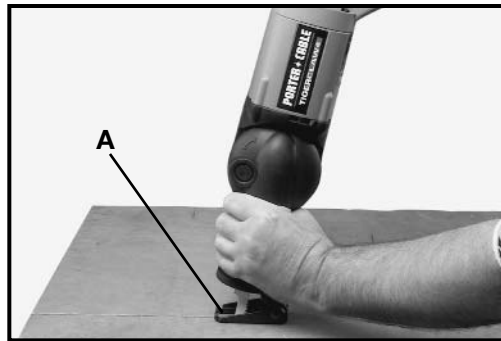

Fig. 12
The *Quik-Change*™ pivoting guide shoe (A) Fig. 12, serves as a rest while making a cut. It is pivoted so the saw may be gradually raised to a position perpendicular to the work as the saw is moved toward the operator.